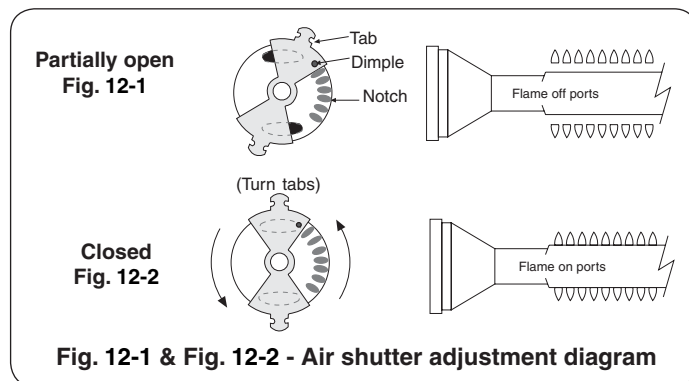

Fig. 12-1 & Fig. 12-2 - Air shutter adjustment diagram
Main burner air shutters are easily accessed by removing the access panel located under the right hand shelf. The air shutters are located at the front of the burners where they attach to the gas manifold (see PARTS LIST). The air shutter has a small dimple (see Fig. 12-1), which allows it to lock into notches in the burner face. This prevents the air shutter from moving.
3. After burning for two (2) minutes, open the air shutters, **using the tip of a screwdriver**, until the flames lift off, or appear not to be touching the burners (Fig. 12-1).